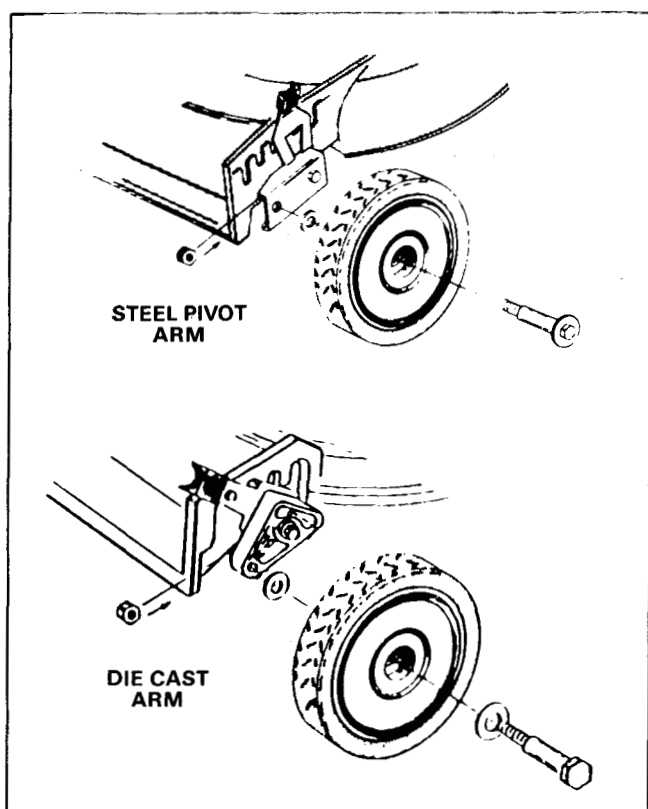

Figure 135
- See Figure 135 to identify the type of front pivot arms which mount the wheels to your mower.